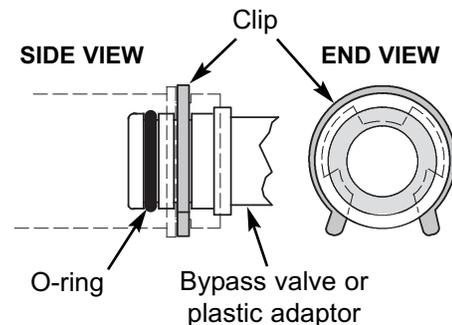

FIG. 9
- Snap the two large plastic clips in place on the inlet and outlet ports, from the top, down (See Figure 9). Make sure they snap into place. Pull on the bypass valve, or installation adaptors, to make sure they are held securely in place.